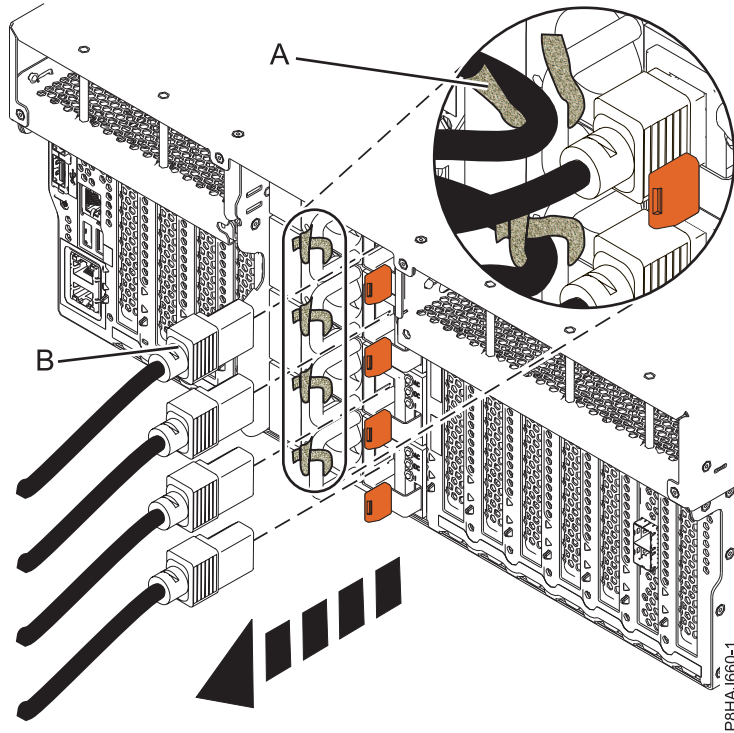
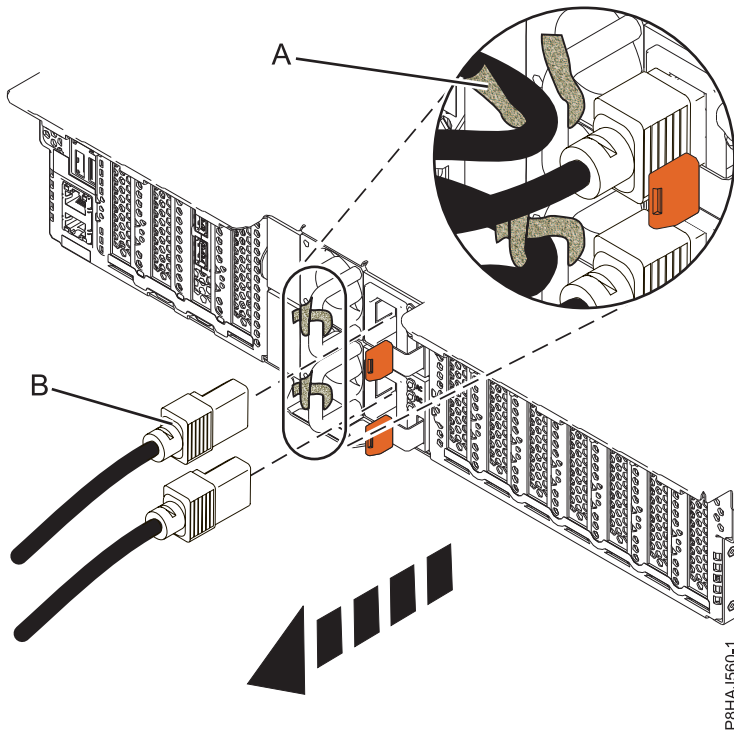
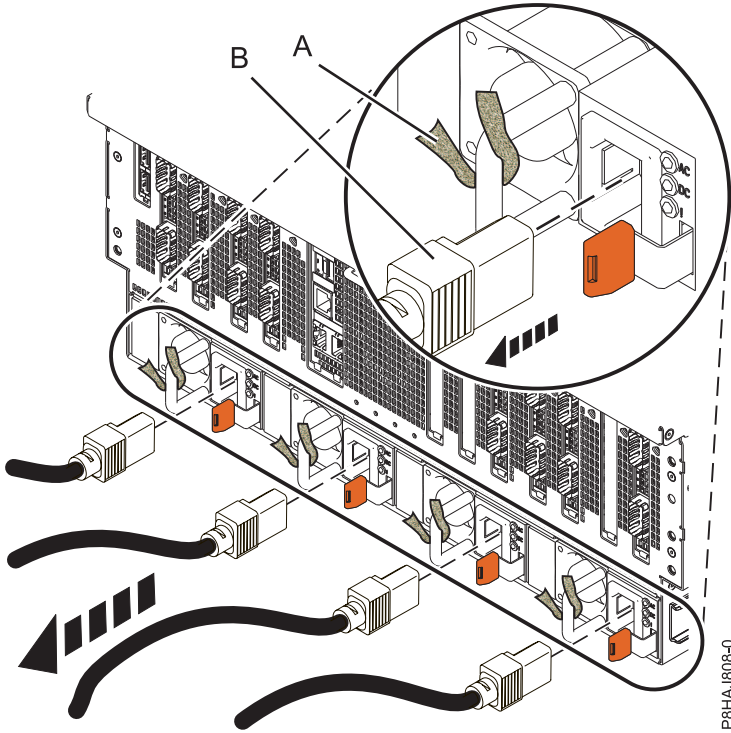

Figure 56. Removing the power cords from an 8247-42L, 8286-41A, or 8286-42A system
Figure 57. Removing the power cords from an 5148-21L, 5148-22L, 8247-21L, 8247-22L, 8284-21A, or 8284-22A system
Figure 58. Removing the power cords from an 8408-44E or 8408-E8E system
3. Disconnect the power cords (**B**) from the system unit. See Figure 56 on page 71, Figure 57 on page 71, or Figure 58 on page 72 or depending on the type of your system.